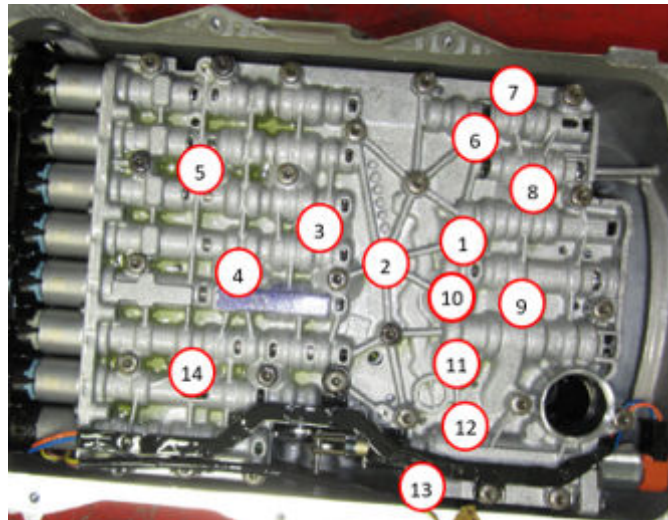

Fig. 42
64. Using Guide Sleeve 10377, carefully install the electrical harness guide sleeve into the transmission case Fig. 42.